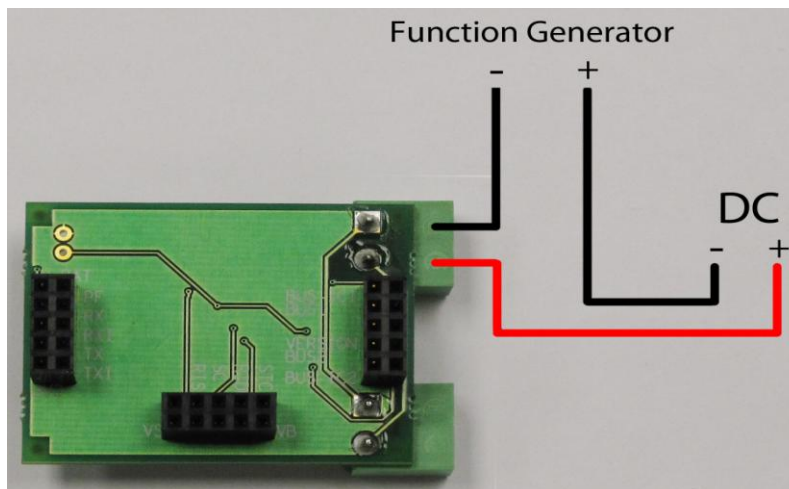

Figure 2: TEST 3 setup
- Set the Power Supply to 30V, 100mA. Connect a Function Generator in series to the power supply (see figure 2). Set the Function generator to square wave, high Z output, 15Vpp, 19.2 kHz.